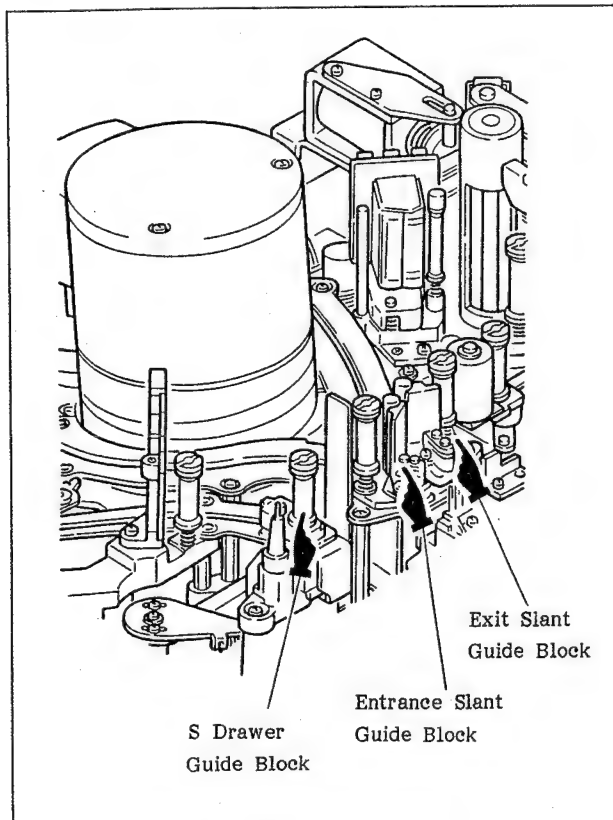

Fig. 5-7 Slider Guide Blocks
A. If there is dust on the slide surfaces of the S drawer block, the entrance slant guide block, and the exit slant guide block, marked by shown in Fig. 5-7, the guide blocks may not move smoothly and positioning errors may occur. Clean the slider guide blocks by the following procedure.